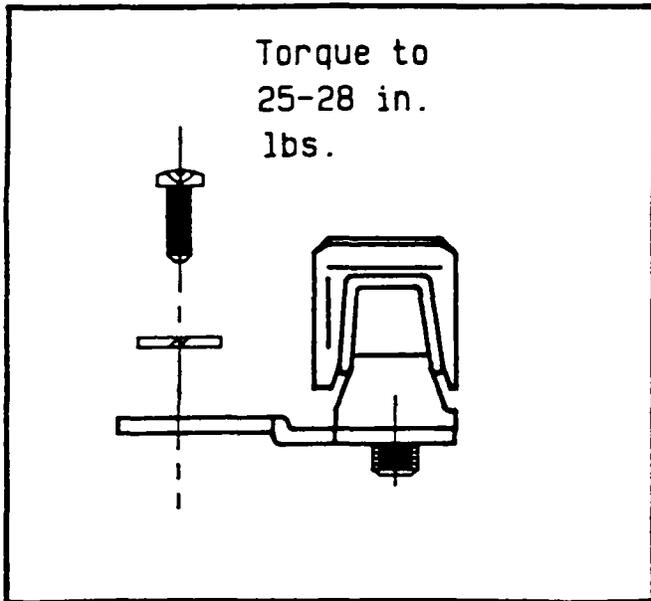
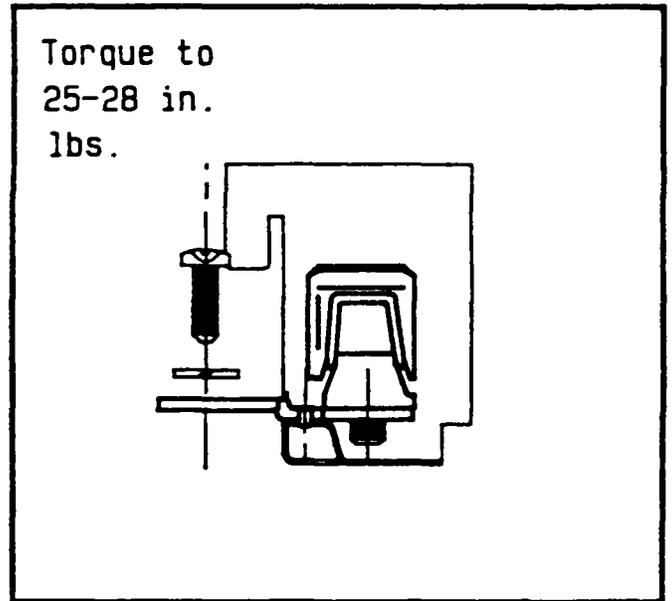

Fig. 5
Fig. 6
12. For Cat. No. FCK203 & FCRK203 use Fig. 5, install fuse clip & strap on disconnect device.
13. For Cat. No. FCJK603 & FCRK606 refer to Fig. 5 & 6. Note Fig. 6 must be installed in center pole.